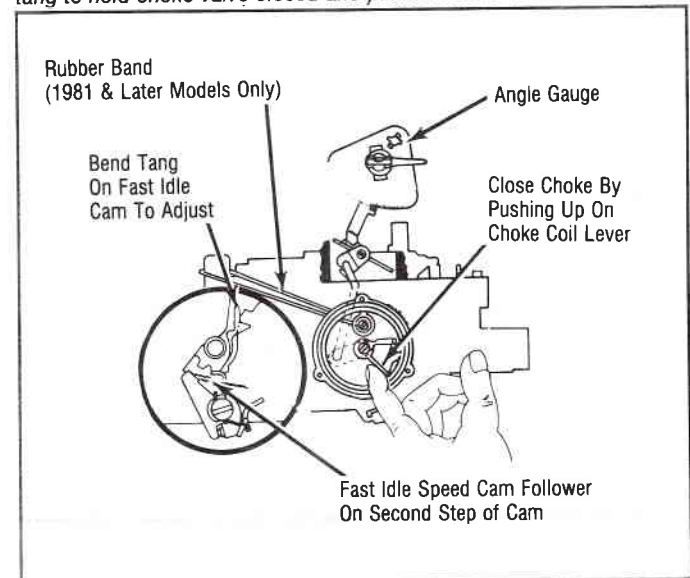

Fig. 7 Fast Idle Cam Adjustment
- Place fast idle cam follower on second step of fast idle cam against shoulder of highest step. Close choke completely by pushing up on choke coil lever or vacuum break lever tang. On 1981 and later models, hold choke closed with rubber band. See Fig. 7.